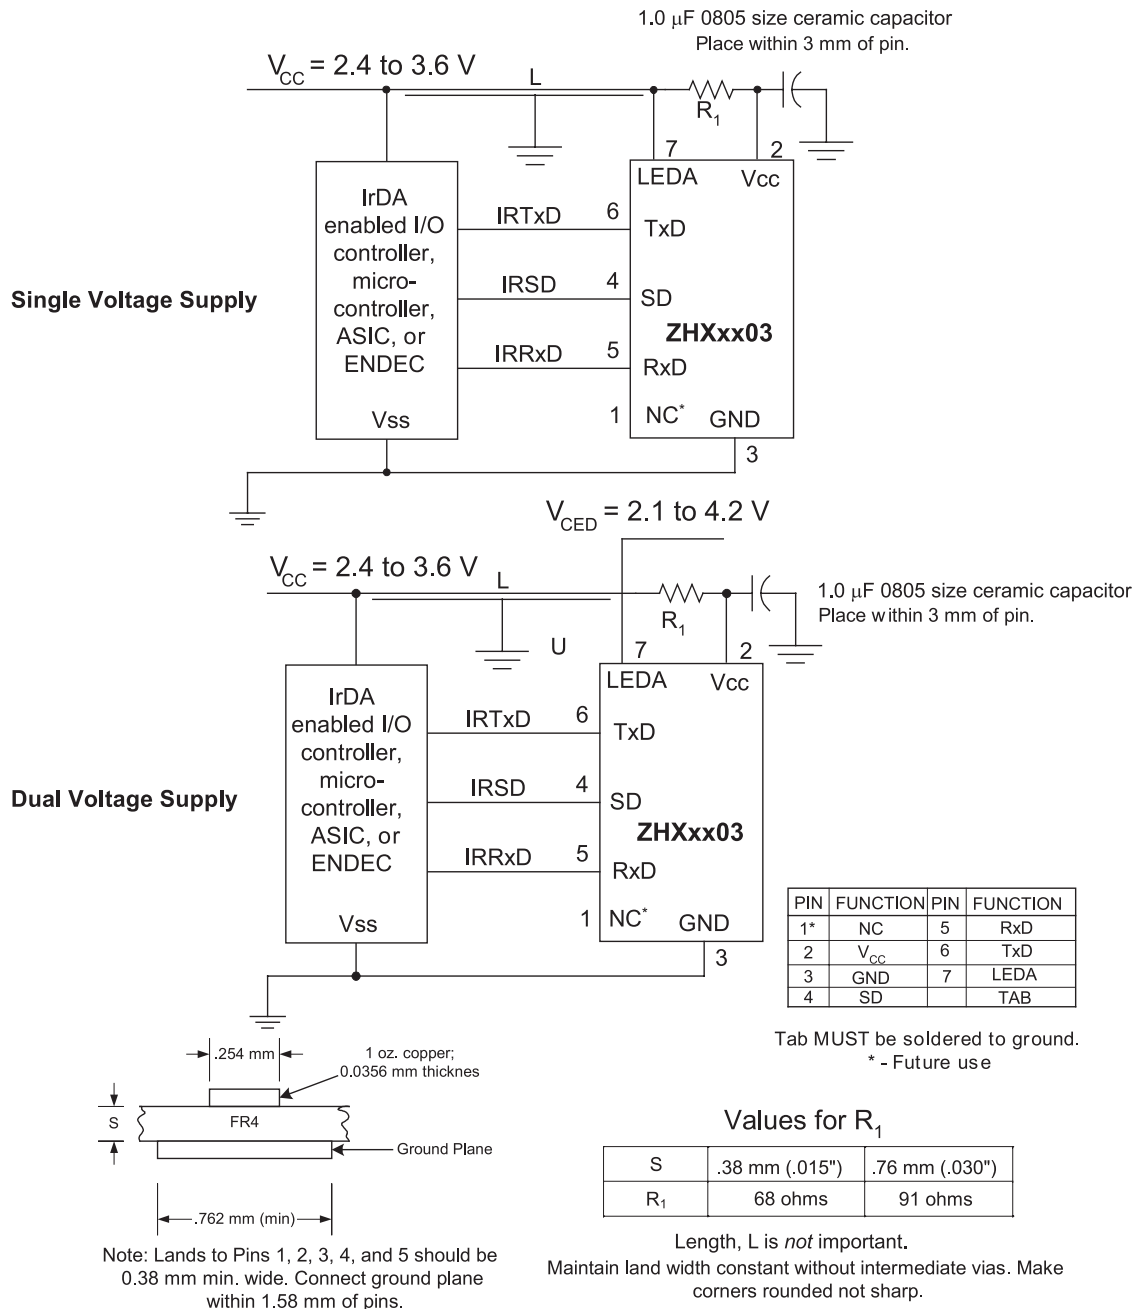

Figure 3. ZHX1203 Application Block Diagrams
- Figure 3. ZHX1203 Application Block Diagrams 4
Figure 3 shows the application block diagrams for the ZHX1203 transceiver.